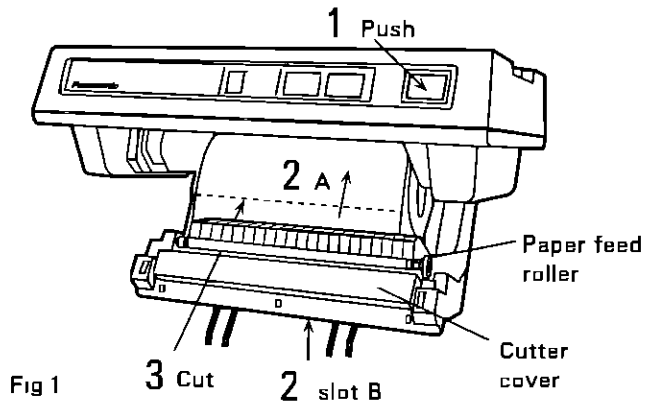

Fig 1
- 3 Cut the paper as shown in Fig. 1.